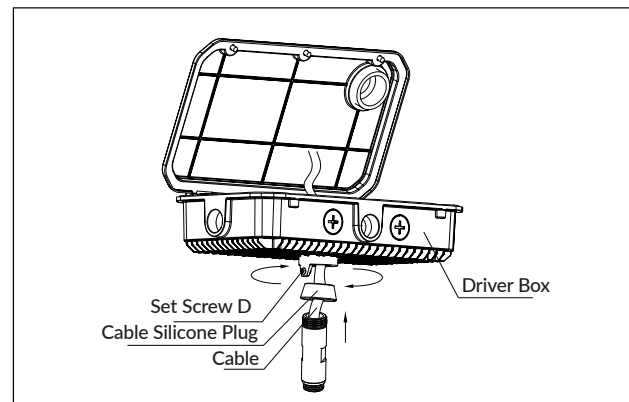

Figure 10
- Press down the driver box to compress the cable silicone plug, then rotate driver box and tighten together with conduit (figure 10).